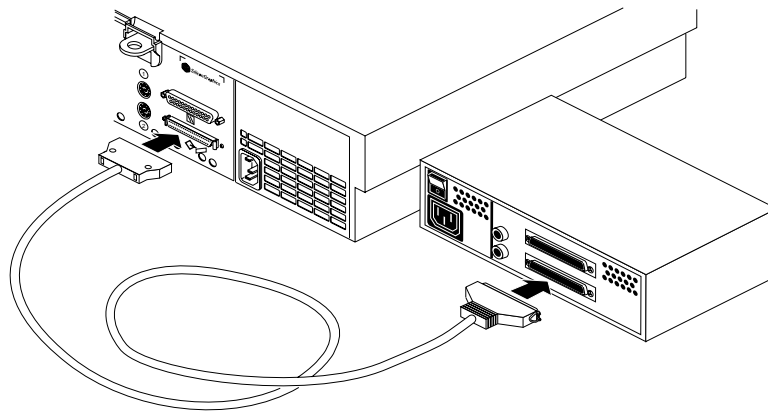

Figure 6-6 Connecting an External 50-Pin SCSI Device to the Challenge S Server
- To connect the device to the server, connect the flat, smaller end of the cable to the port above the SCSI icon on the back of the server, as shown in Figure 6-6.